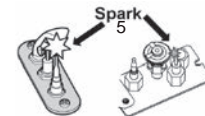

Fig 3
2. TO CLEAR ANY GAS, turn main valve off by pressing the (⏻) button on remote handset (1). Wait five (5) minutes to clear out any gas, then smell for gas, including near the floor. If you smell gas, STOP! follow "B" in the safety information above on this label. If you don't smell gas, go to the next step.
3. AUTOMATIC IGNITION: MAN-knob (2) in ON position. Ensure Flame Adjustment knob (3) is set to lowest setting (Fig. 1). Locate the pilot (Fig. 3.) inside the firebox.
With the window off, locate the pilot (Fig. 3) inside the firebox. Set Flame Adjustment knob (3) to the lowest setting. Push down the metallic core (4) with a pen or similar instrument; this will establish the pilot gas flow. Light gas at the pilot (5) with a match. Continue holding down metal core (4) for about 10 seconds; after release, pilot should remain lit. If the pilot will not stay lit after several tries, turn the gas control knob (3) to OFF and call your local service technician or gas supplier. Reinstall the window and set the MAN-knob (2) to ON; turn Flame Adjustment knob (3) up or down manually or use the (⏴) and (⏵) buttons on the remote control handset to adjust the flame height.